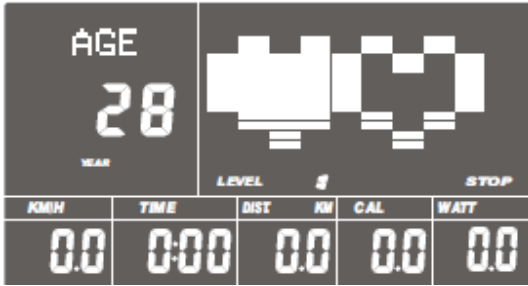

fig. 7
- F. Lastly the age will flash, press **UP** or **DOWN** to set the user's age. Press **ENTER** to confirm the value. (See fig 7)